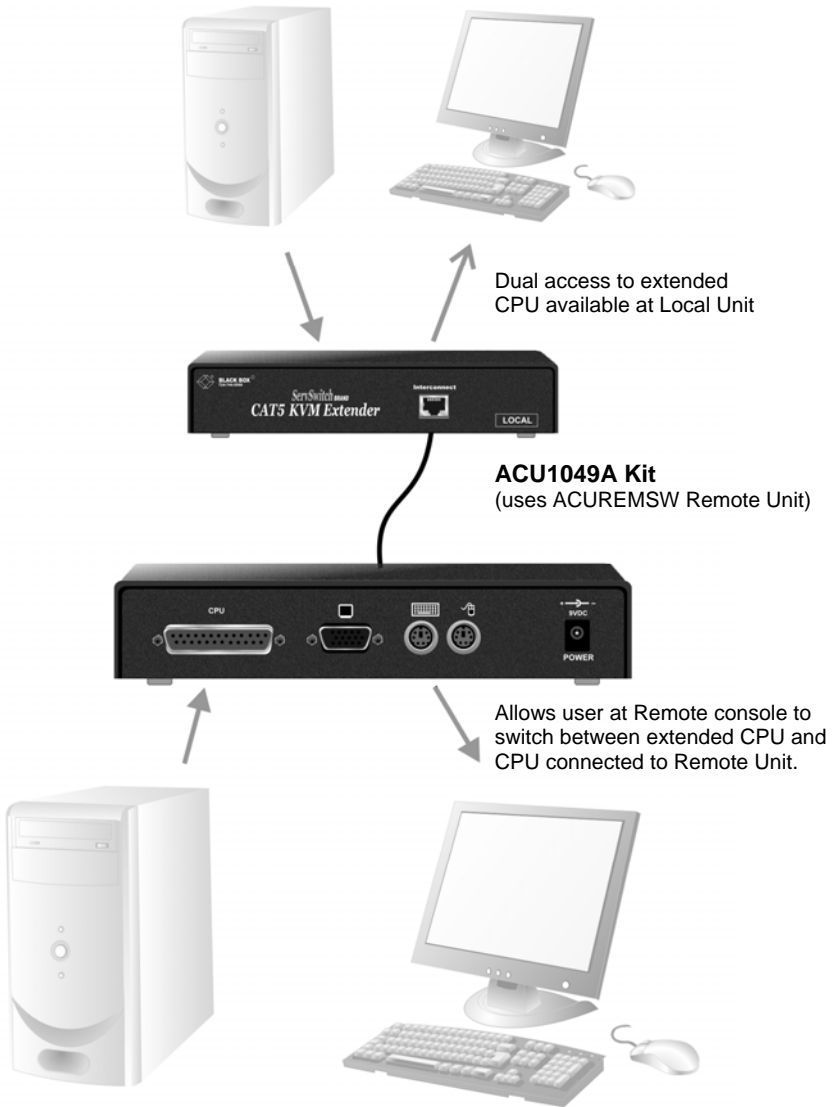

Figure 13 ACU1049A kit with switching Remote Unit
- ACU1049A extender kit allows remote user to switch between remote and local CPUs (Figure 13).